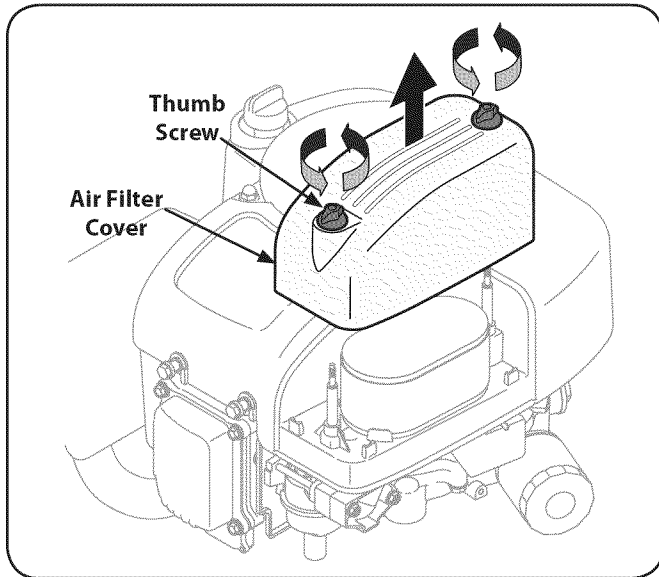

Figure 13
1. Unscrew the thumb screws and remove the air filter cover. See Figure 13.